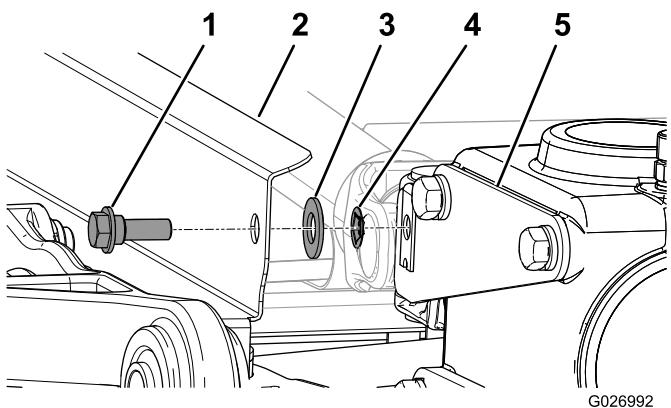

Figure 25
3. Attach the driveshaft shield to the pivot bracket installed in procedure 6 Mounting the Pivot Bracket (page 5); refer to Figure 25.